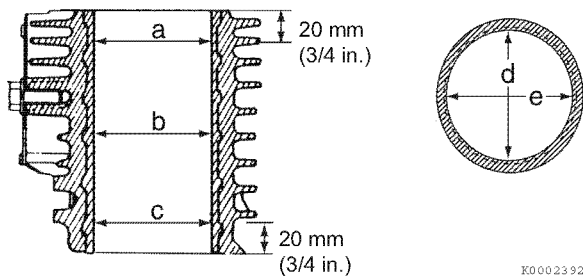

Figure 6-67
- Take measurements at three places (a, b, c, **Figure 6-67**) and in two directions (d, e, **Figure 6-67**) in each cylinder. See *Cylinder block* on page 6-14 for the service limit. Record the measurements.